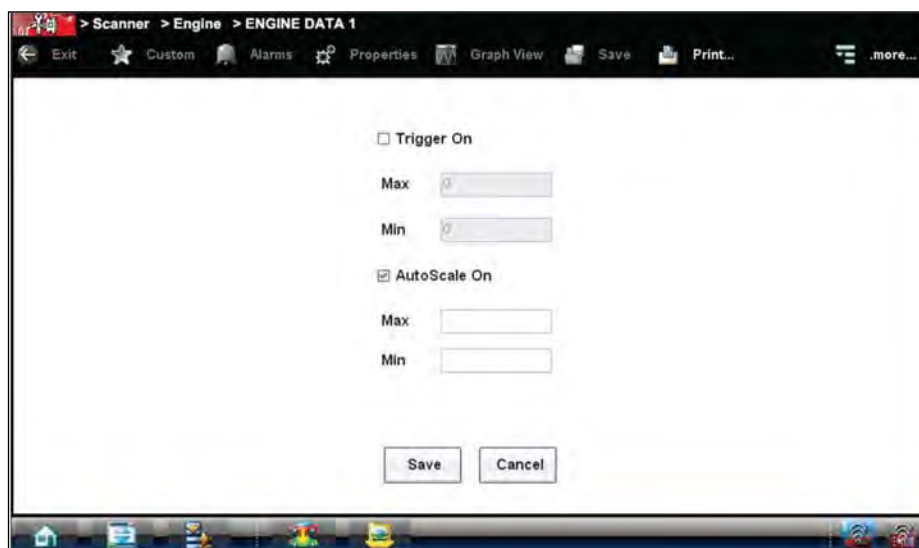

Figure 5-21 Sample manual scale selection
1. Tap the Graph Properties icon on the graph you wish to scale to open the dialog box (Figure 5-21).